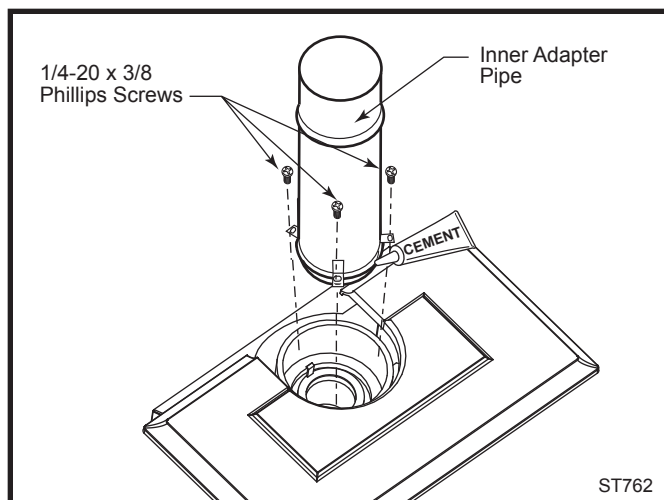

Fig. 20 Simpson DuraVent - install inner adapter pipe.
- Run a bead of sealant around the bottom end of the starter pipe and attach the assembly to the stove using three 1/4-20 x 3/8" Phillips screws provided in the parts bag. (Fig. 20)